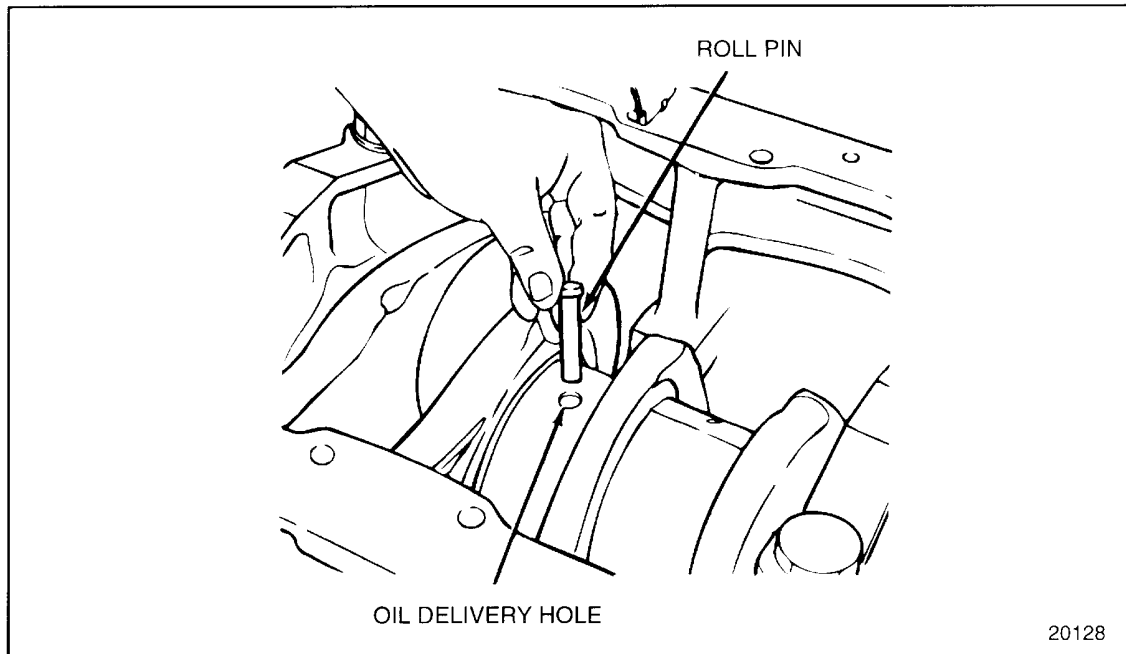

Figure 1-141 Upper Main Bearing Shell Removal and Roll Pin Installation
5. To bar the engine over, use the square hole in the middle of the crankshaft pulley, to position the crankshaft throw. Position the crankcase throw for the main bearing being worked on so that the oil delivery hole is pointing upward. See Figure 1-141.
6. Install the roll pin to the oil delivery hole in the crankshaft journal. See Figure 1-141. If this operation is being performed in-frame, use petroleum jelly to retain the roll pin in the hole.